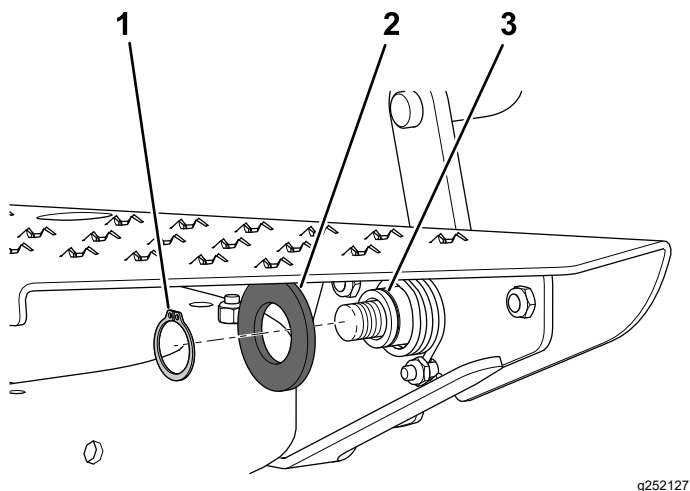

Figure 8
7. Secure the torsion spring to the bushing plate with a flat washer (1-1/8 x 2 inch) and a retaining ring (Figure 8).